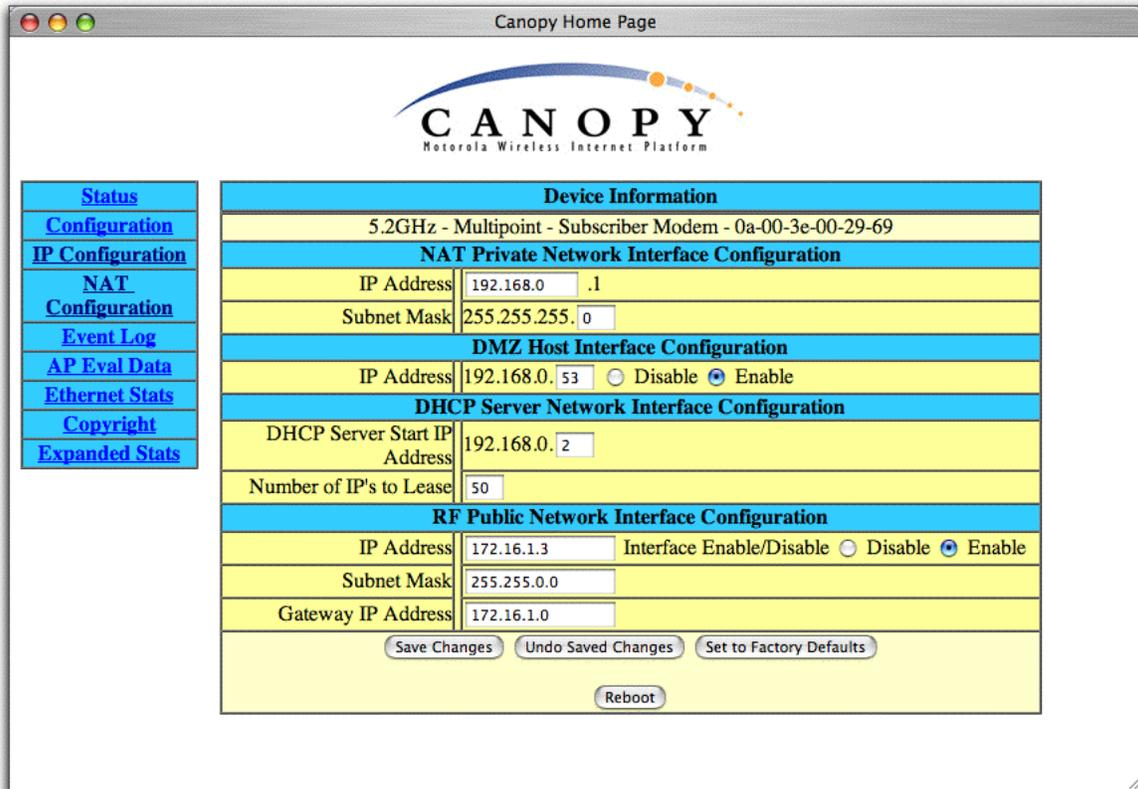

Figure 40: IP Configuration screen, NAT with DHCP client and DHCP server
- Figure 40 on Page 94 for the NAT with DHCP Client and DHCP Server implementation.